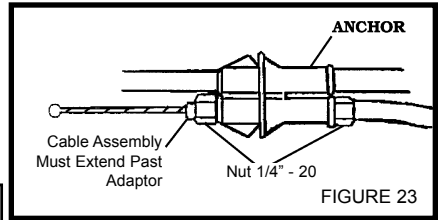

FIGURE 23
- d. Insert the **CABLE ASSEMBLY** through the blank anchor and thread the other **1/4" - 20 NUT** in place. **Figure 23**